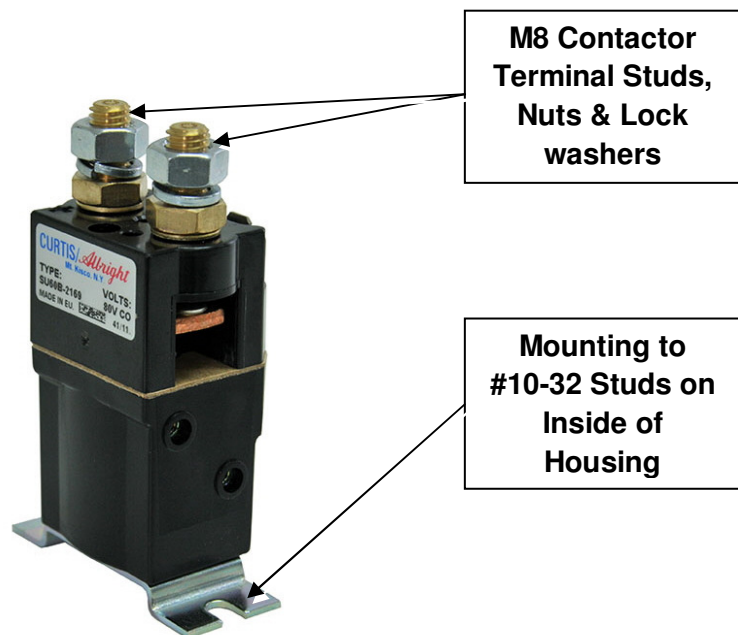

Figure 11: DC Contactor
- The 80 A, 80 V Contactors provide for input protection and full isolation in case of under/over voltage. See Figure 11.
5.3 REPLACING THE DC CONTACTOR (P/N KF00022): - SEE FIGURES 11 & 19.